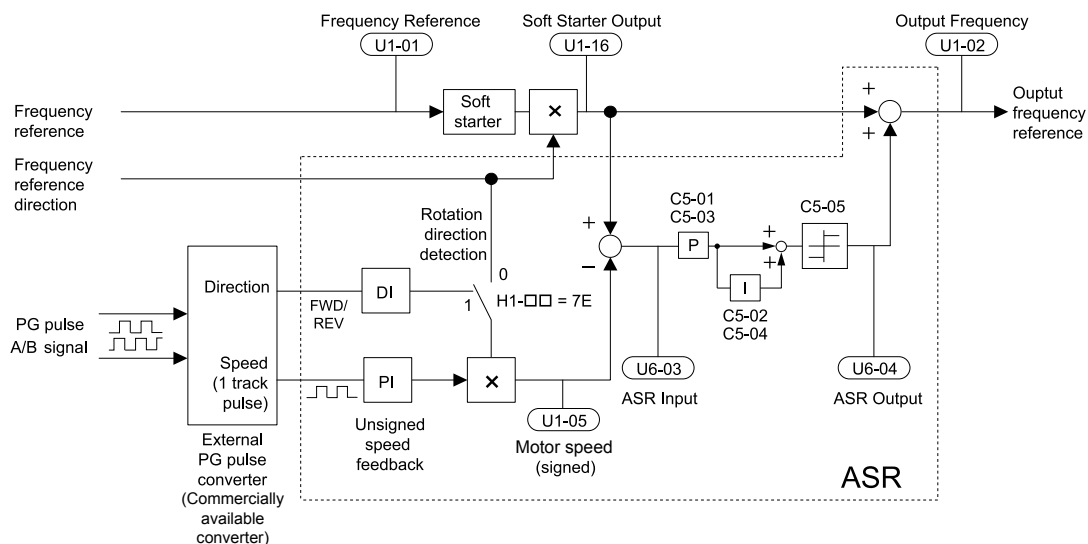

Figure 5.29 Speed Control with ASR in V/f with Simple Speed Feedback
*Figure 5.29* illustrates the ASR function when using V/f with Simple Speed Feedback.